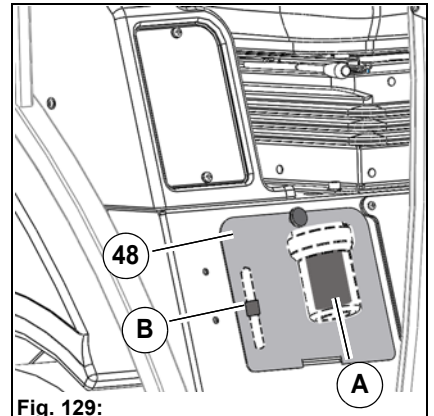

Fig. 129:
The sieve filter **Fig. 129-A** and the reducing piece **Fig. 129-B** of the water pump are located in the driver's cab under the driver's seat behind the cover plate **Fig. 129-48**. Unscrew the filter housing, check the sieve filter and the reducing piece for openness and clean if necessary.
3. Also empty the sieve filter **Fig. 129-B**.